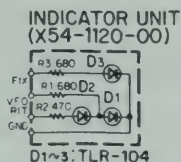

Figure 25 INDICATOR Board
5.14 INDICATOR BOARD (X54-1120-00) (See Figure 25)